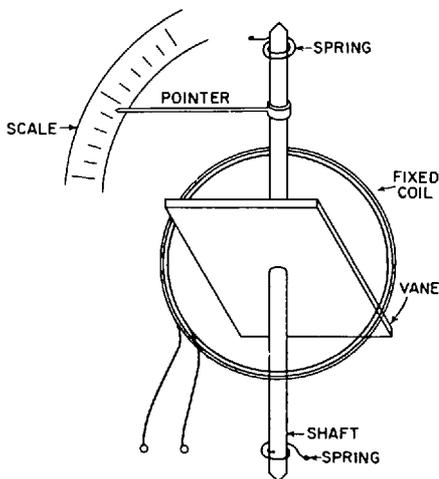

Fig. 32-24. Diagram of the inclined-coil a-c meter.
**The Inclined-Coil Meter.** Another type of alternating-current meter is the *inclined-coil* meter (Fig. 32-24). Here, a fixed coil is set at an angle to a shaft upon which is mounted a soft-iron vane set at right angles to the coil. As current flows through the coil, the vane attempts to turn to a position where it will line up with the magnetic lines of force around the coil. As the vane rotates, it turns the shaft, which in turn moves the pointer. The rotation of the vane is opposed by the two springs shown. Since the force of